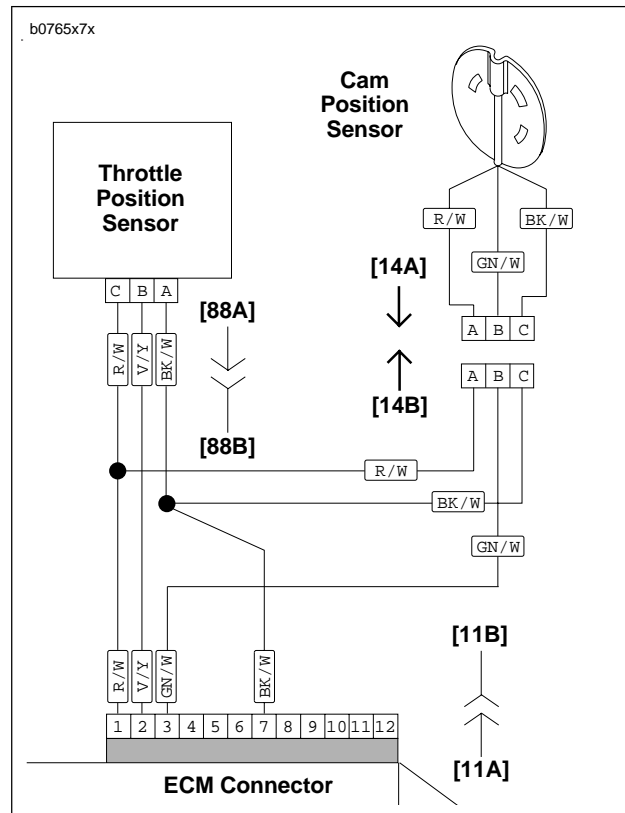

Figure 4-68. Connecting Sensor Wires
- Install trigger rotor (17).
- Apply LOCTITE 243 (blue) to threads of bolt (18).
- Position trigger rotor (17) onto end of camshaft aligning notch with camshaft slot.
- Install cam position sensor (19) and timer plate studs (4). Rotate cam position sensor to its previously marked position to obtain approximate ignition timing.
- See Figure 4-68. Install sensor wiring terminals into correct positions in plug end of connector [14]. R/W, GN/W and BK/W wires of plug end (from cam position sensor) must match same color wires in receptacle end of connector (from ignition module wiring harness). Install pin terminals. See B.2 DEUTSCH ELECTRICAL CONNECTORS under B.1 AMP MULTILOCK ELECTRICAL CONNECTORS.